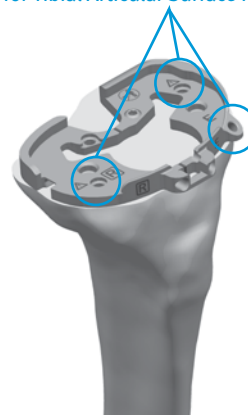

Fig. 50
- When the desired position has been attained, secure the Cemented Tibial Sizing Plate by placing 25mm x 3.2mm (2.5mm female hex) screws or 25mm x 3.2mm short head holding pins in the medial and lateral holes near the PCL cutout of the Cemented Tibial Sizing Plate (Fig. 49b). The remaining adjunct fixation holes shown on the surface of the Cemented Tibial Sizing Plate can be used if necessary. If the Cemented Tibial Sizing Plate is to be used as a provisional in later steps, male-headed screws/pins used in these holes must be removed prior to using the Tibial Articular Surface Provisionals (TASPs) (Fig 50). Ensure that the Cemented Tibial Sizing Plate remains in the proper position when securing it to the bone. Once desired alignment has been verified with the Alignment Rod, remove the Tibial Sizing Plate Handle handle from the Cemented Tibial Sizing Plate.